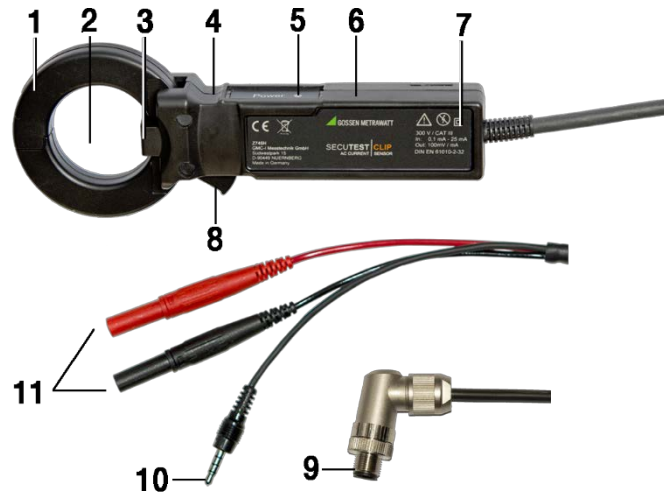

Figure 3
The jaw release button (see figure 3, item 7), must be pressed to this end.
- The fingers must not extend beyond the recessed grip (see figure 3, item 4)! Safety clearance to the current-conducting cable is otherwise not maintained!
- When enclosing the conductor, it must be ensured that conductor is as close as possible to the middle of the yoke (see figure 3, item 2), and that the jaws do not pinch any conductors!